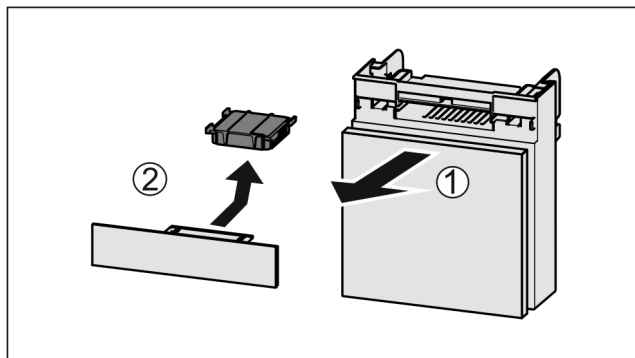

Fig. 85
- Pull out the compartment Fig. 85 (1).
- Remove the carbon filter Fig. 85 (2).